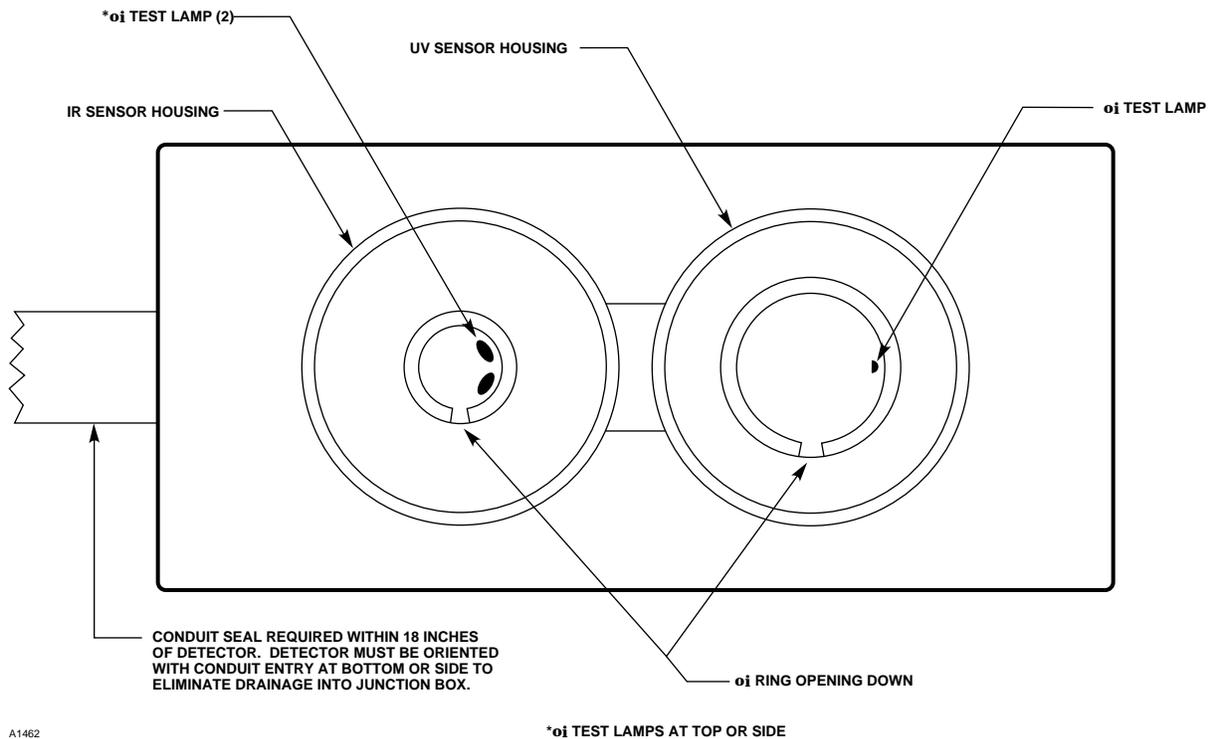

Figure 10—Front View of the C7052 Detector
It is recommended that the detector be oriented with the conduit opening at the bottom or at either side of the device. This will reduce the possibility of moisture entering the junction box through the conduit entry and also ensure that the **o**i test lamps are not in a position that would make the detector overly susceptible to **o**i faults. Whenever possible, slope the conduit run downward from the detector. Do not use conduit runs that enter the device from the top. See Figure 10 for identification of the detector parts of interest when mounting, and Figure 11 for an example of vertical detector mounting.
*The two **oi** lamps on the DE5500 IR sensor should be at the top or side of the detector (when viewed from the front) and the opening on the **oi** ring should be at the bottom. See Figure 10. This will ensure proper operation of the **oi** system and also minimize the accumulation of moisture and contaminants between the **oi** ring and the viewing window. (The **oi** lamps on the IR sensor are identified as oblong in shape and clear in color.)*
16. The opening of the **oi** rings should be pointed down to minimize the accumulation of moisture or contaminants behind the ring (see Figure 10). Verify that the **oi** test lamp is at the top or side of each sensor. Note that Figure 10 shows the DE5500 IR module with the test lamps located together on one side of the edge. The DE3895 IR module has test lamps located directly opposite one another. In both cases, ensure that no test lamp is positioned at the bottom when the detector is installed.